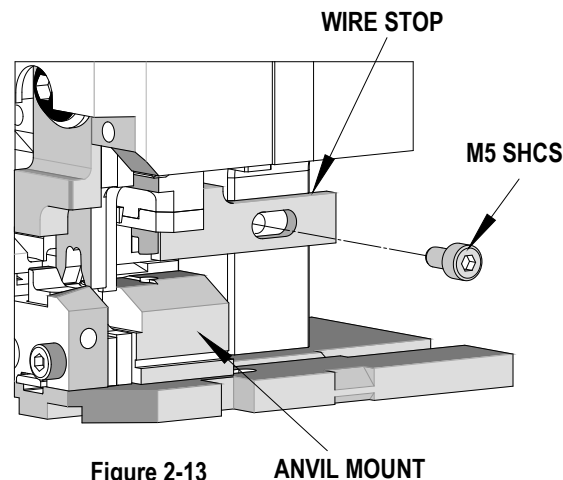

Figure 2-13 ANVIL MOUNT
5. Loosen the screw for the wire stop and adjust the position of the wire stop. See Figure 2-13. Towards the operator increases the brush length and towards the applicator frame decreases it.